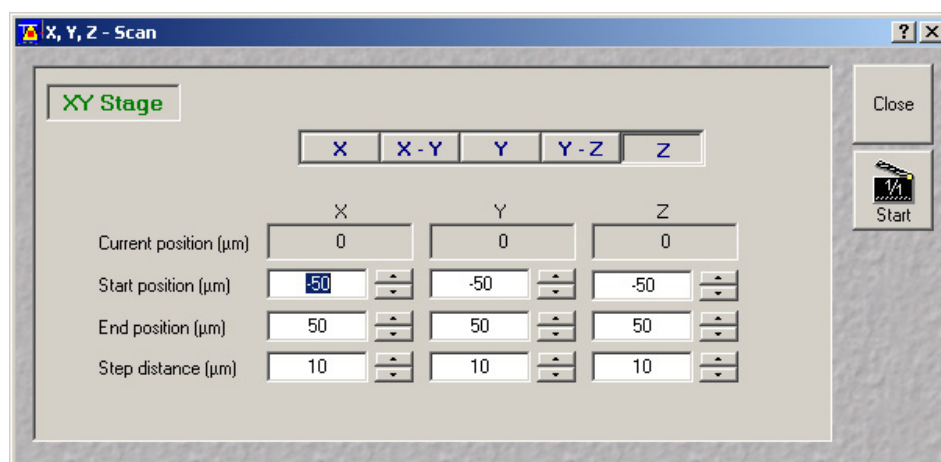

Fig. 4-27 X,Y,Z-Scan operating window
Opens the **X,Y,Z-Scan** window (see Fig. 4-27) for performing a X,Y,Z-scan.
- The **X,Y,Z-Scan** operating window appears on the screen (Fig. 4-27).